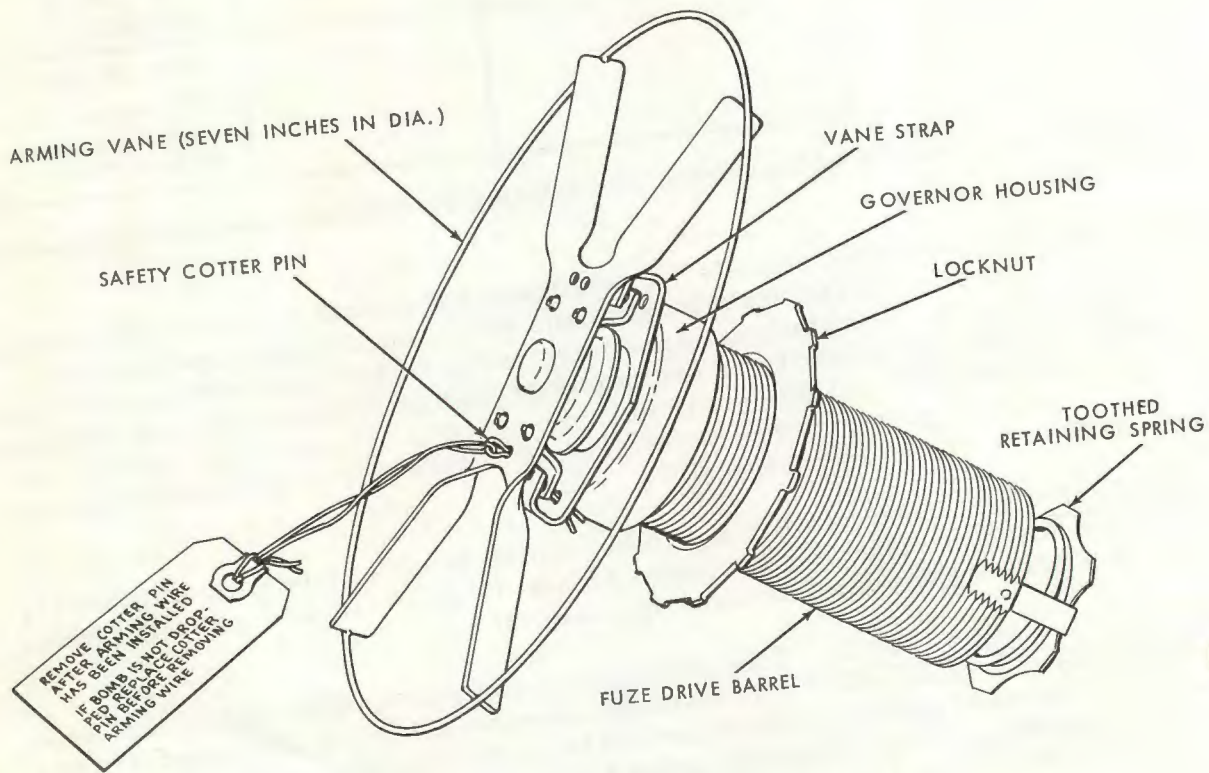

Figure 5-7 Fuze Drive Mk 5 Mod 0
Fuze Drive Mk 5 Mod 0. This device is common to all Marks of the Arming Assembly. It consists of a four-blade, seven-inch wire-shrouded arming vane, the governor, and the fuze drive barrel with a locknut and a toothed retaining spring (Fig. 5-7). The fuze drive is designed to be quickly and securely affixed to either the conical fins of low-drag bombs or the SNAKEYE I tail.
5. Screw the locknut on the fuze drive barrel all the way out toward the arming vane (Fig. 5-7).
11. When loaded aboard the aircraft, install the arming wire through the vane strap (Fig. 5-7) and secure the arming wire with two Fahnestock clips. Approximately three or four inches of the arming wire should extend past the vane strap. Do not stress the arming wire too tightly against the solenoid.
deform the vane. This forces the fuze drive barrel (Fig. 5-7) all of the way through the adapter sleeve. At the completion of this step, the fuze drive barrel and the retaining spring should be protruding through the end of the adapter sleeve.